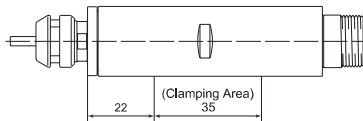

Fig. 6
- ① When mounting the spindle, refer to the Clamping Area etched on the spindle. (Fig. 6)